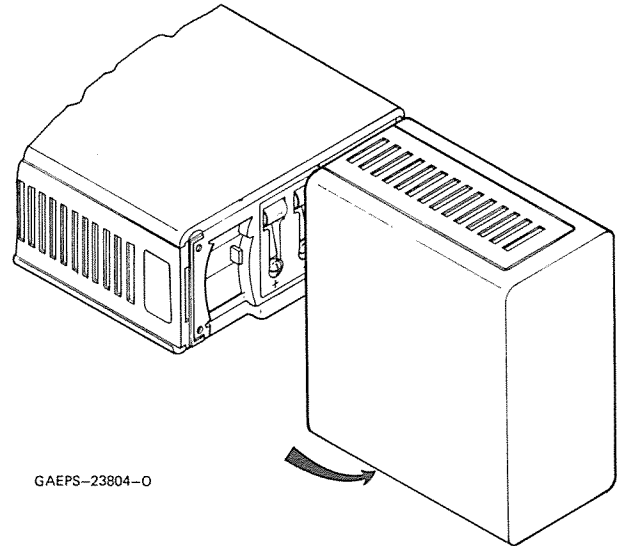

Figure 7. Battery Disengagement
Step 3. While holding the battery release depressed, rotate the battery counterclockwise as illustrated. (See Figure 7.)